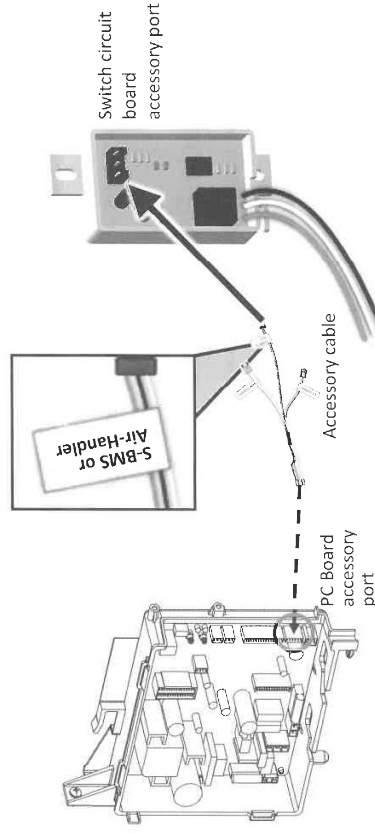

Figure 2: PC Board Assembly
4. Connect one end of the accessory cable to the accessory port on the PC Board. Connect the other end of the cable to the **switch circuit board** accessory port (Figure 2).